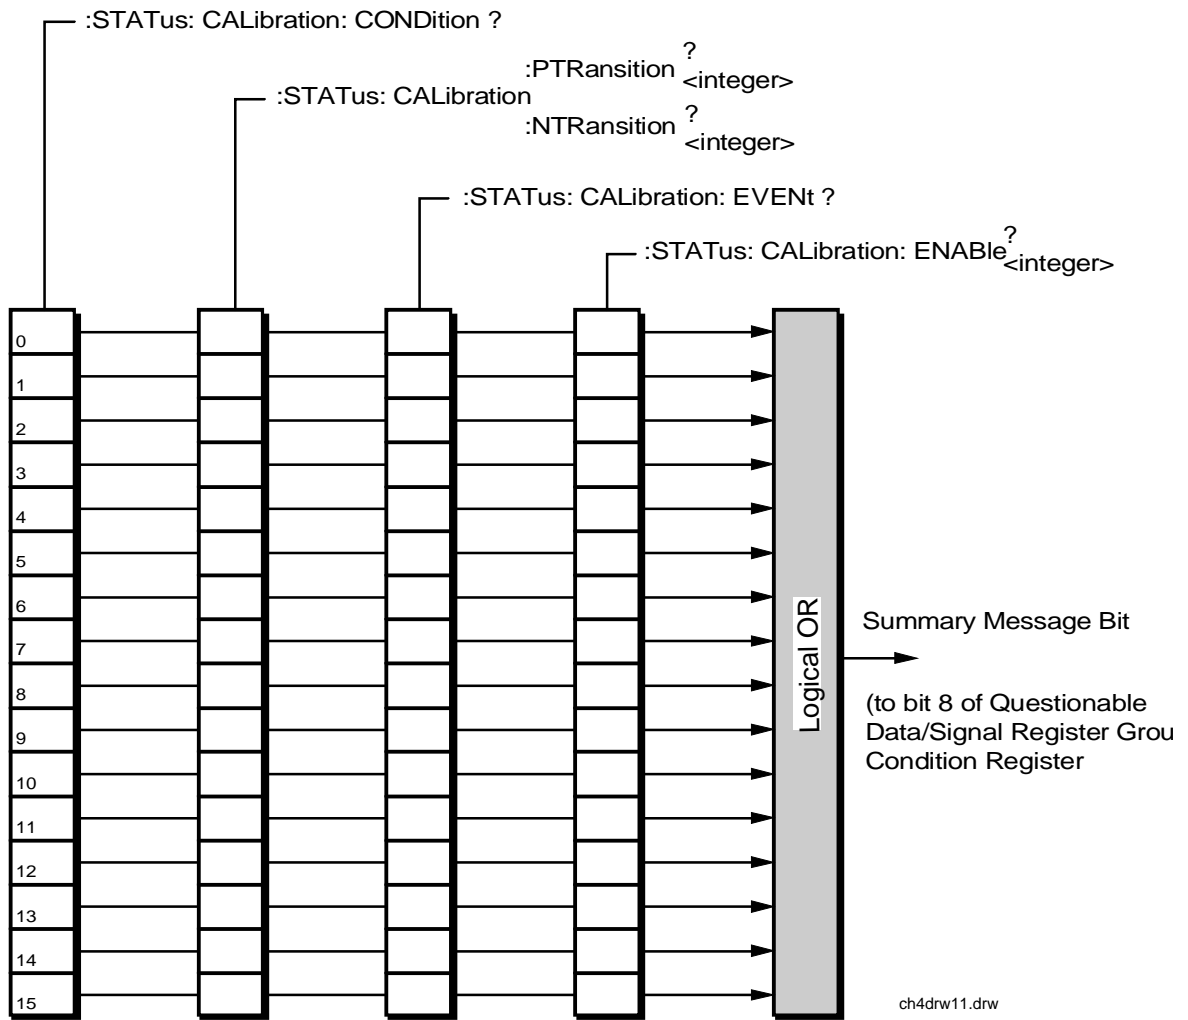

Figure 12 Calibration Status Register Group
**Figure 12 on page 121** shows the structure and STATUS commands for the Calibration Status Register Group.
**Figure 12** shows the structure and STATUS commands for the Call Processing Status Register Group.